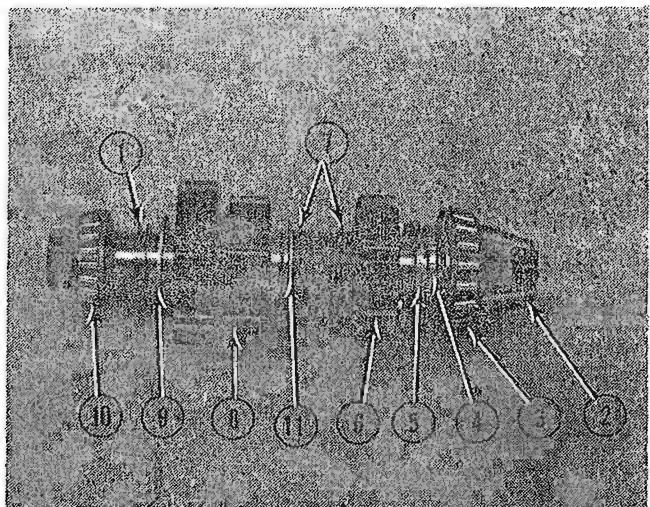

FIG. 4
Fig. 4 shows the assembly sequence of the parts mounted onto the pinion shaft.
- (1, Fig. 4 & 5) Backlash Shims
- (2, Fig. 4 & 5) Rear Pinion Shaft
- (3, Fig. 4 & 5) Rear Cone Bearing
- (4, Fig. 4 & 5) Split Thrust Rings
- (5, Fig. 4 & 5) Thrust Washer
- (6, Fig. 4 & 5) Ground Drive Gear & Pin
- (7, Fig. 4 & 5) Snap Ring
- (8, Fig. 4 & 5) PTO Idler Gear
- (9, Fig. 4 & 5) Thrust Washer
- (10, Fig. 4 & 5) Front Cone Bearing
- (11, Fig. 4 & 5) Thrust Washer